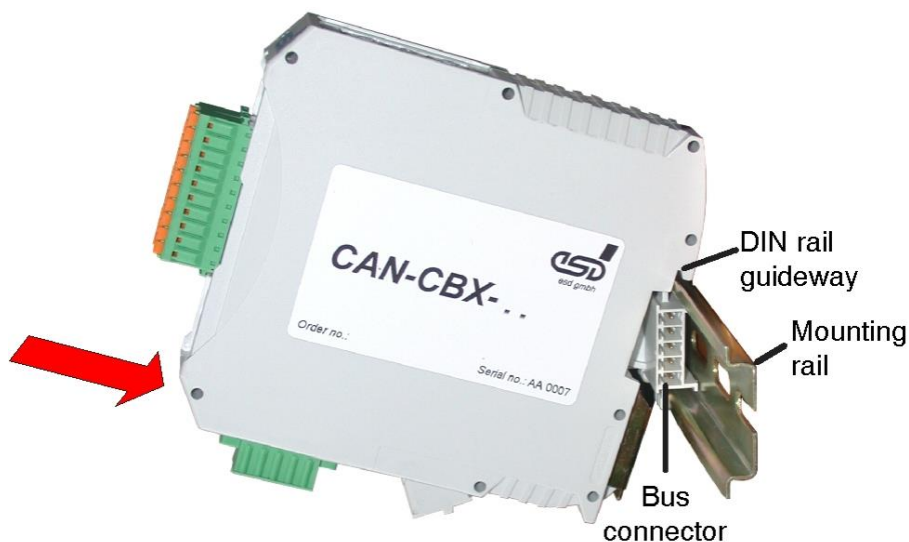

Figure 17: Mounting CAN-CBX modules
- Now swivel the CAN-CBX module onto the mounting rail by moving the module downwards according to the direction of the arrow in Figure 17. The housing is mechanically guided by the guide bar of the bus connector.